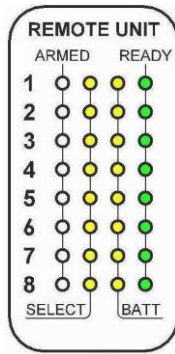

Figure 4-6 Status Check Results on Controller
4.2.7. Figure 4-6 are the results of our STATUS check with all 8 Remote Units reporting. The steady green READY lights for Remote Units #1-8 indicate they are disarmed. The steady yellow BATT lights indicate Remote Units #1-8 do not have low batteries.